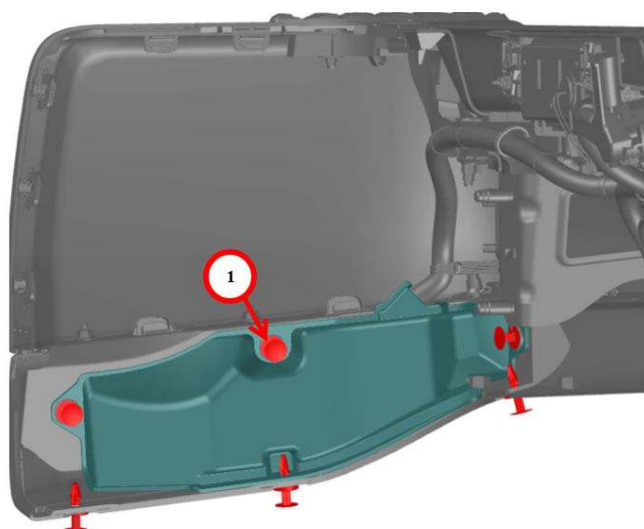

Fig. 1
2. Remove the six push pin fasteners securing the rear bumper closeout panel and remove the panel Fig. 1.
17. Position the rear bumper closeout panel Fig. 1 for installation and secure using the six push pin fasteners.